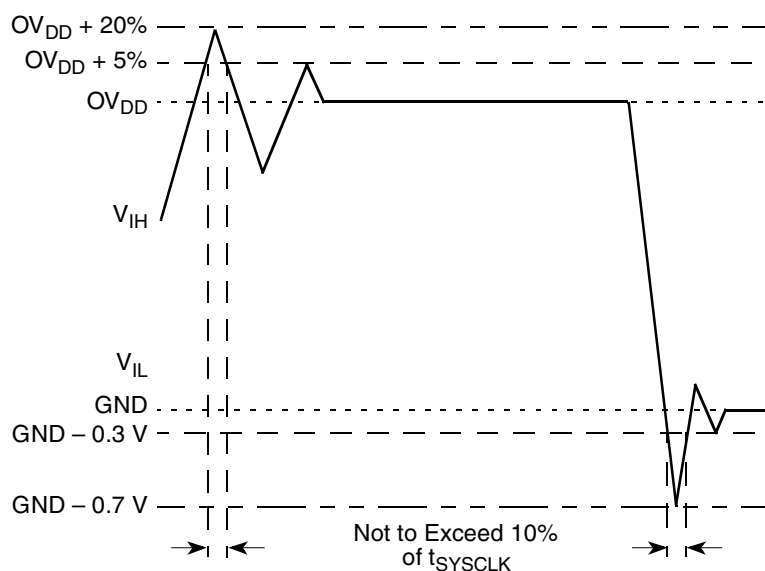

Figure 2. Overshoot/Undershoot Voltage
- Caution:** V_{in} must not exceed OV_{DD} by more than 0.3 V at any time including during power-on reset except as allowed by the overshoot specifications. V_{in} may overshoot/undershoot to a voltage and for a maximum duration as shown in Figure 2.
Figure 2 shows the overshoot and undershoot voltage on the MPC7448.